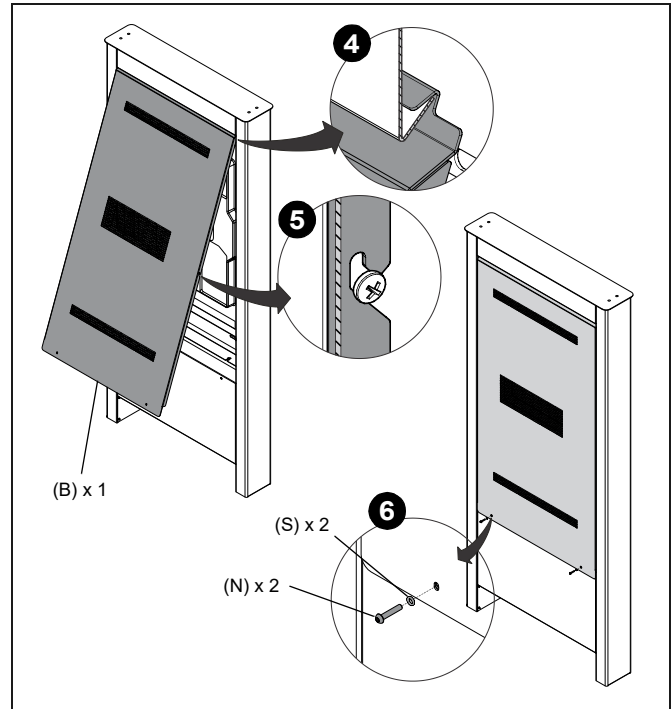

Figure 19
- Hook the top of the rear bezel (B) onto the edge along the inside of the kiosk frame.
- Carefully rotate the bottom edge of the bezel down, making sure the cutouts on both sides fit around the exposed screw heads in the sides of the kiosk frame. (See Figure 19)
- Position rear bezel (B) flat against the kiosk frame and install two 10-24 x 1" screws (N) and O-rings (S) through the holes along the bottom edge of the bezel. (See Figure 19)